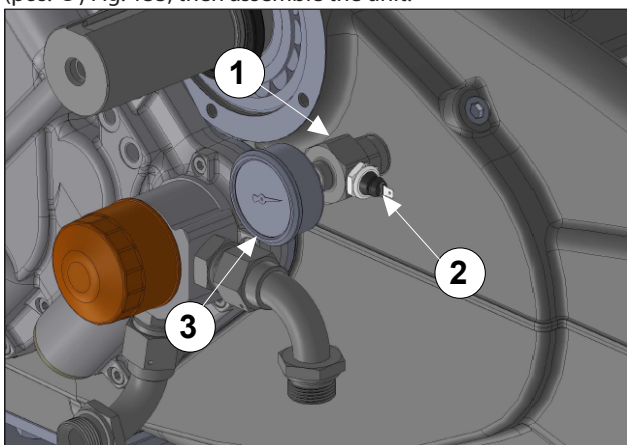

Fig. 133
Use LOX-EAL 53-14 fitting sealant or similar to smear on the fitting (pos. ①), pressure switch (pos. ②) and pressure gauge (pos. ③) Fig. 133, then assemble the unit.